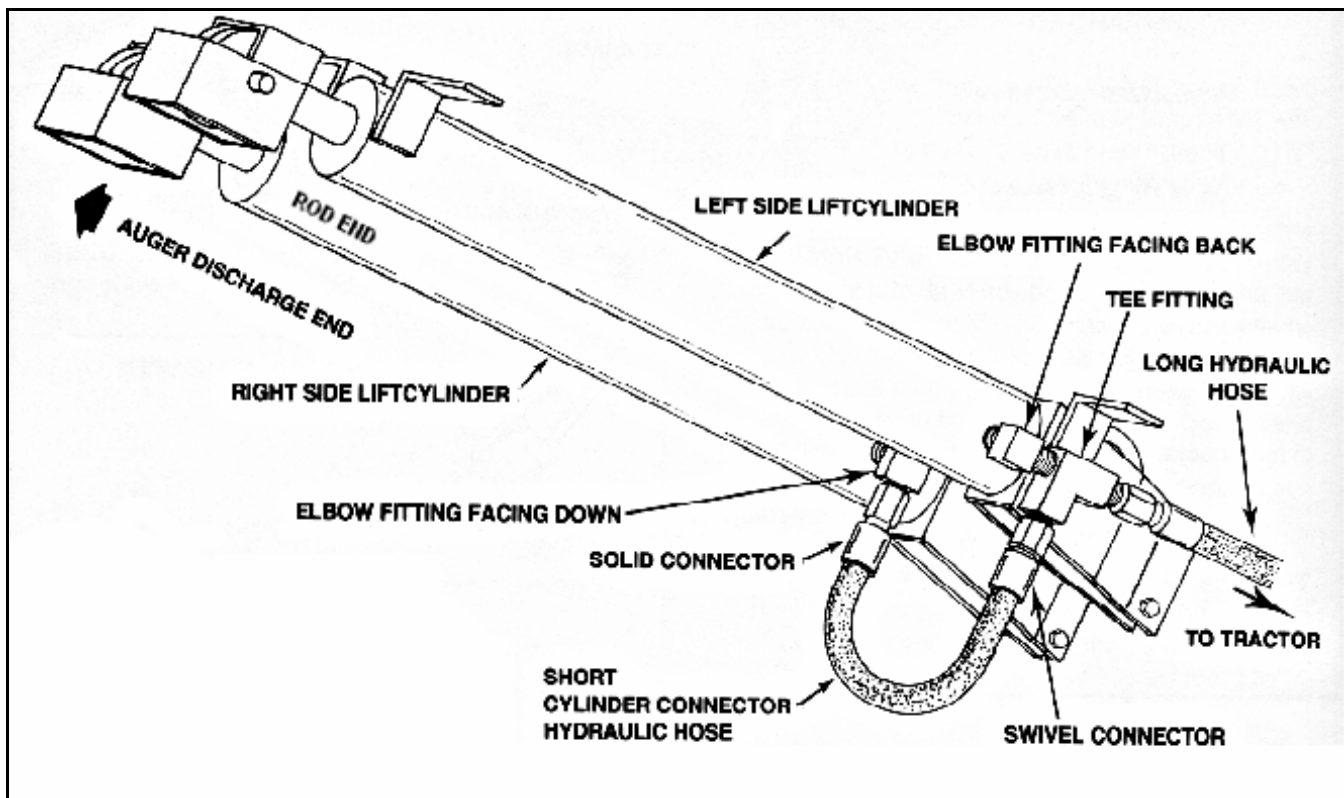
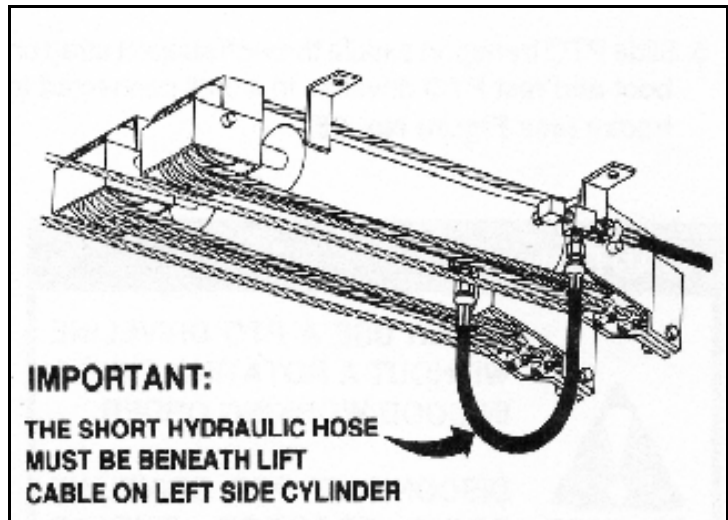

Figure 3.37
Figure 3.41
1. Rotate the elbow fitting at lower end of lift cylinder so it faces down, making sure it is securely tightened (Figure 3.37).
2. With elbow fitting on left side lift cylinder facing back as shown, secure the tee fitting to the elbow fitting (Figure 3.37).
3. Securely attach the swivel connector end of the short hydraulic hose to tee fitting on left side cylinder (Figure 3.37). Make sure that this short hose is **beneath** the lift cable on left side lift cylinder (Figure 3.41).
**Note:** *Before attaching short connector hydraulic hose to left side lift cylinder, make certain lift cables are tightly stretched and that this hose is positioned beneath lift cable on left side lift cylinder (Figure 3.41). If lift cable is not installed above this hose, it could result in the hose wearing through during operation, causing a hazardous condition.*
4. Securely attach the 272" (6.91 m) long hydraulic hose to tee fitting (Figure 3.41). Place this hose into brackets welded to side of auger tube and boot. Bend tops of these brackets over slightly to hold hose in place.
**Note:** *Before attaching short connector 17" (43.2 cm) hydraulic hose to left side lift cylinder, make certain lift cables are tightly stretched and that this hose is positioned beneath lift cable on left side lift cylinder (Figure 3.37). With lift cable beneath this hose, cable will wear on hose as auger is raised and lowered, causing hose to wear through.*